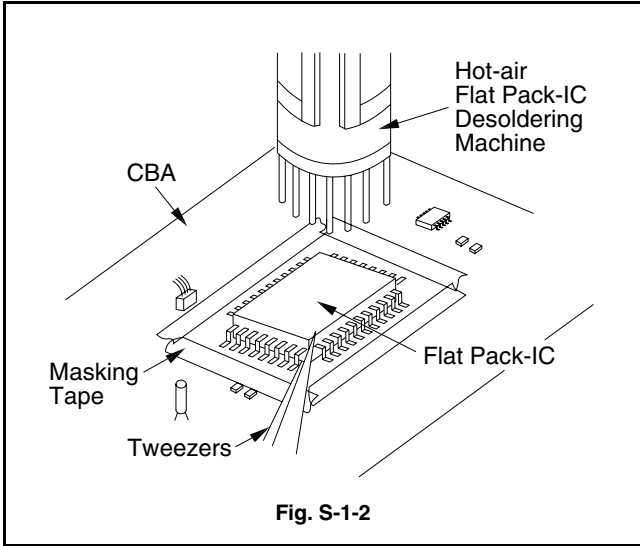

Fig. S-1-2
- 1. Do not apply the hot air to the chip parts around the Flat Pack-IC for over 6 seconds as damage may occur to the chip parts. Put Masking Tape around the Flat Pack-IC to protect other parts from damage. (Fig. S-1-2)